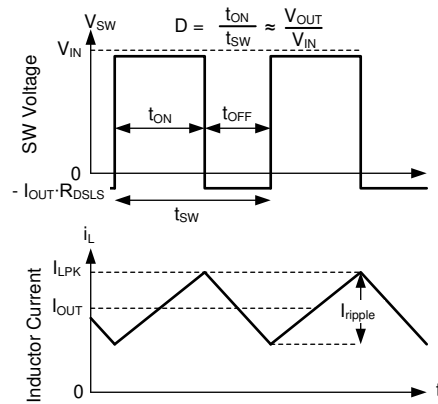

图 8-14. SW Voltage and Inductor Current Waveforms in Continuous Conduction Mode (CCM)
The following operating description of the LM61435-Q1 refers to # 8.2 and to the waveforms in 图 8-14. In CCM, the LM61435-Q1 supplies a regulated output voltage by turning on the internal high-side (HS) and low-side (LS) NMOS switches with varying duty cycle (D). During the HS switch on-time, the SW pin voltage, V_{SW} , swings up to approximately V_{IN} , and the inductor current, i_L , increases with a linear slope. The HS switch is turned off by the control logic. During the HS switch off-time, t_{OFF} , the LS switch is turned on. Inductor current discharges through the LS switch, which forces the V_{SW} to swing below ground by the voltage drop across the LS switch. The converter loop adjusts the duty cycle to maintain a constant output voltage. D is defined by the on-time of the HS switch over the switching period: